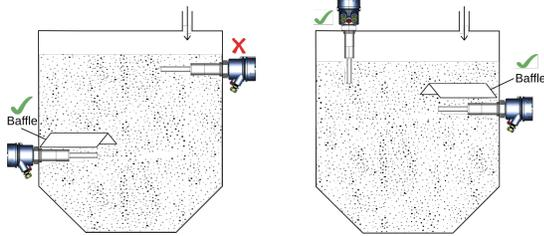

Figure 3: Correct Side Mounting
- Observe that when installed directly under the material inlet source, a canopy called baffle of appropriate strength and size should be welded right above the vibrating rod as shown in Figure 3.